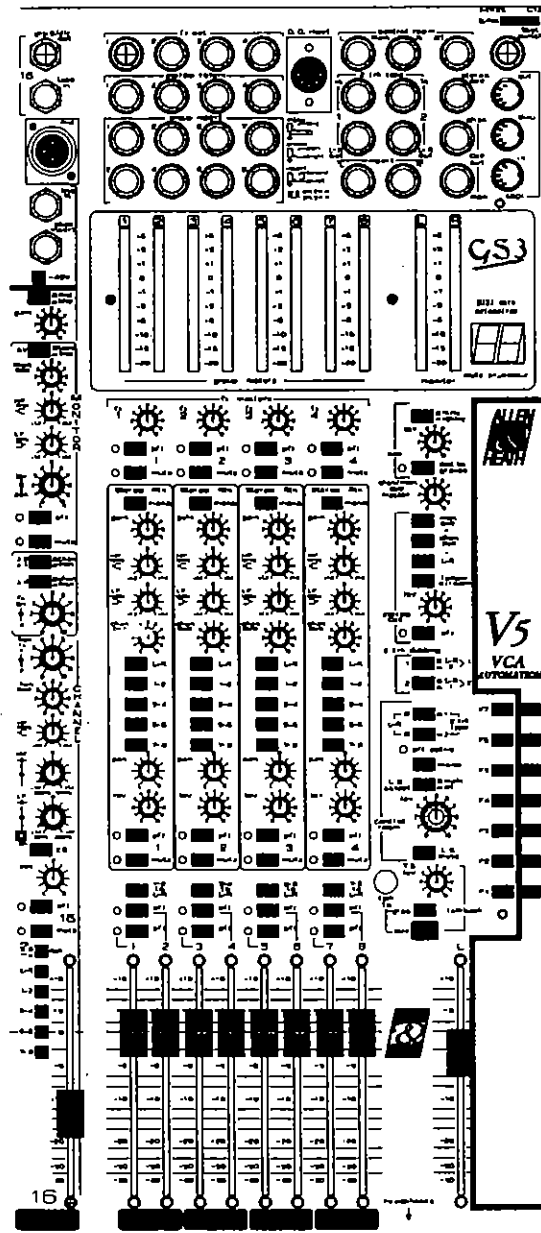

Fig. 21.
4. Unpack the adhesive sticker in the kit of parts. Carefully stick it onto the automation strip on the right hand side of the front panel as shown. *see fig. 21.*